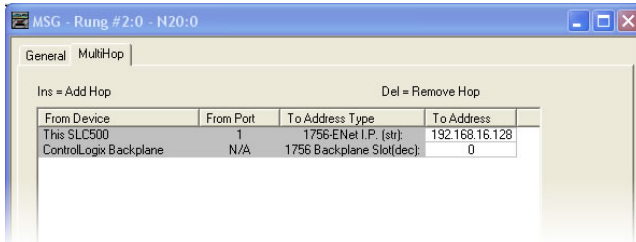

Figure 113: MSG Configuration, "MultiHop" Tab
- e) Under the "MultiHop" tab settings, set the "To Address" in the first row to the drive's IP address, and the "To Address" in the second row to 0. Refer to Figure 113.